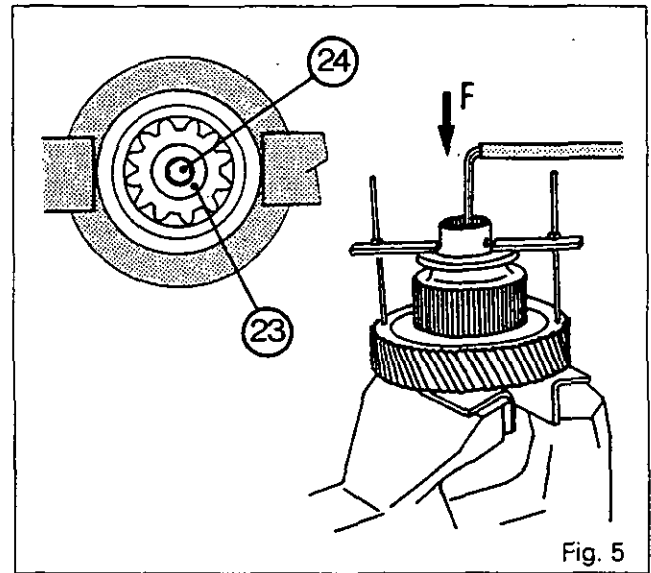
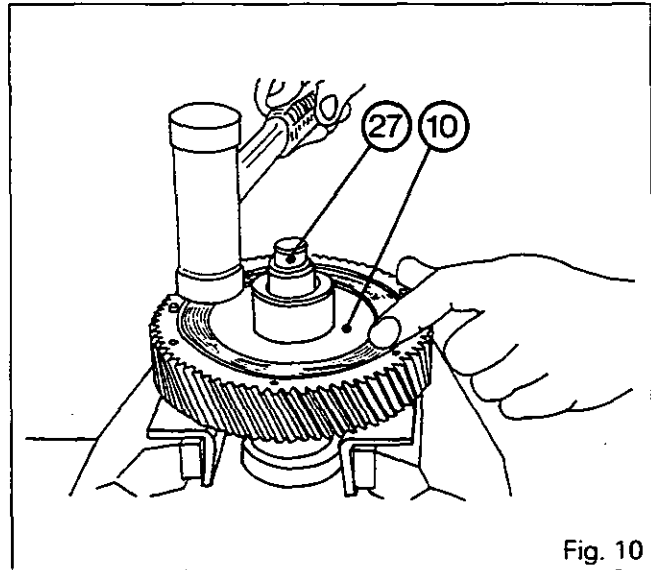

Fig. 5
Fig. 10
30. Hold the spring (18) with the aid of a locally made tool (Fig. 5). For tool see page 8.
31. Remove the screws (24) and take off the washer (23) (Fig. 5). Gradually decompress the spring with the tool.
32. Remove the hub (21), the spring seat (19), the spring (18), the retainer (13) and the Belleville washer (12).
33. Remove the securing ring (20).
34. Extract the ball bearing (22).
35. Take out the piston (10).
36. Remove the O-rings (11), (25) and (26).
44. Lubricate the sleeve (27) and the piston (10) and insert into the housing with a plastic mallet (Fig. 10).
45. Using a suitable device and a press, insert the ball bearing (22) into the hub (21). Fit the securing ring (20).
46. Refit the Belleville washer (12), the support (13), the spring (18), the spring seat (19) and the hub (21).
47. Compress the spring (18) with the tool (Fig. 5). Mount the washer (23) and tighten the screw (24) smeared with Loctite 242 to a torque of 24 - 28 Nm.
48. Place the spacers, the outer plates and the inner plates (according to the type) on the hub (21).
49. Position the clutch housing (15) on the two pins (30). Fit the bolts (16) lightly smeared with Loctite 542 and tighten them to a torque of 24 - 28 Nm.
51. Lubricate and fit the O-rings (3) and (6).